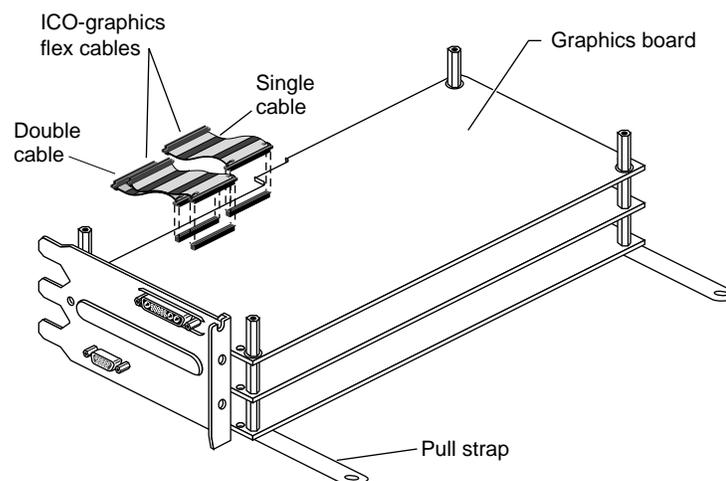
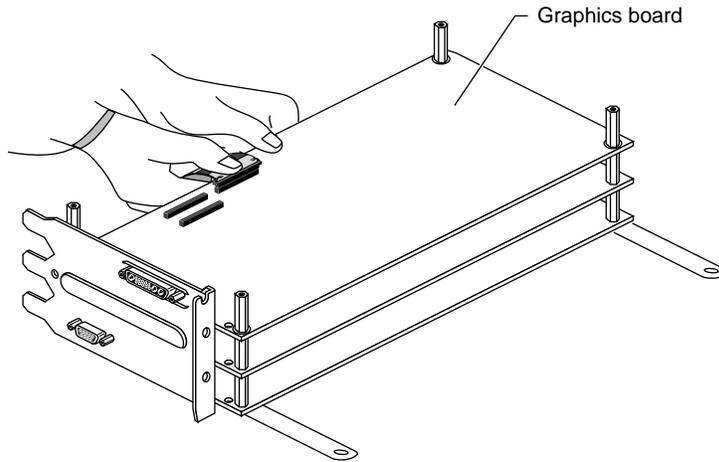

Figure 1-16 Attaching the ICO-Graphics Cables to the Graphics Board
Figure 1-17 Inserting the ICO-Graphics Cables Into the Connectors
1. Attach the two ICO-graphics cables to the graphics board connectors. See Figure 1-16 and Figure 1-17.
Tip: Use your thumb and fingers to squeeze the cable connectors into the connectors on the board. See Figure 1-17.